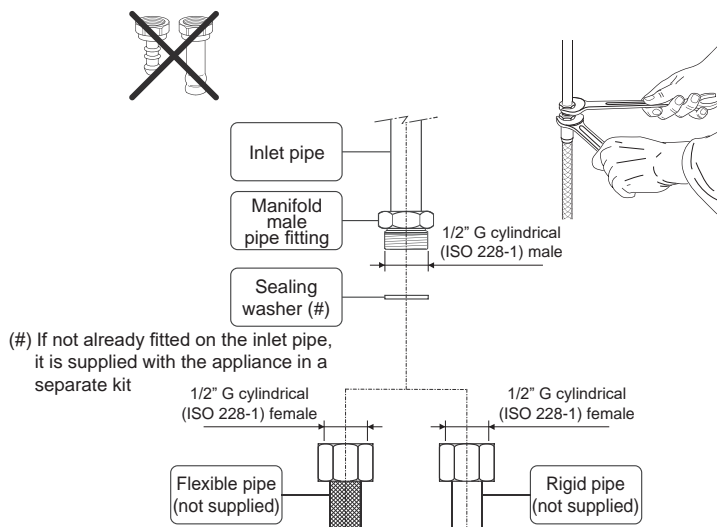

Fig. 2.3
- if compression fittings are used, you tighten them firmly using two spanners (fig. 2.3).
- use two spanners when connecting the rigid or flexible pipe (fig. 2.3).